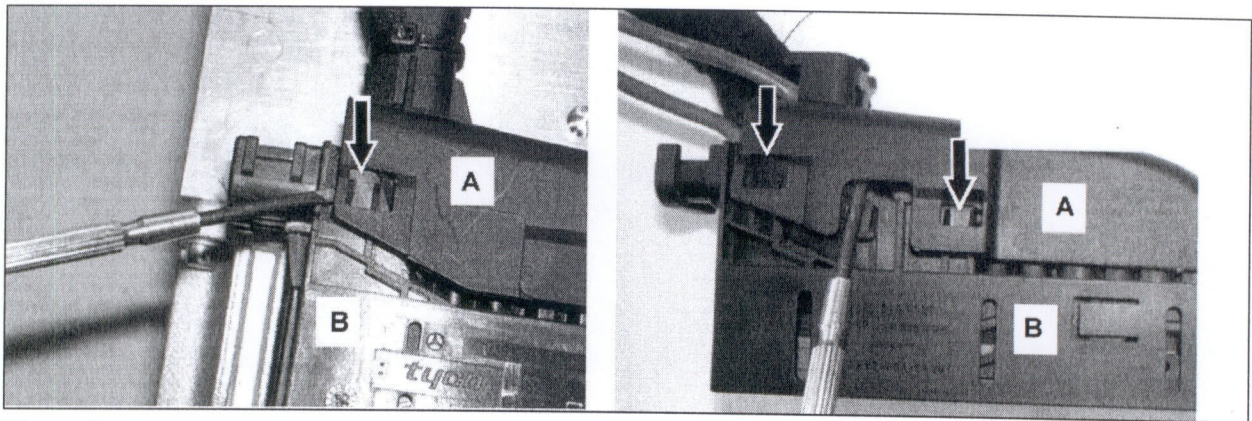

Figure 7
13. Remove SBC connector housing (A, Figure 7) cover:
- Using a small screwdriver, carefully pry cover (A) away from locking lugs (arrow) until it disengages.
- Remove the cover (A) from the housing (B).